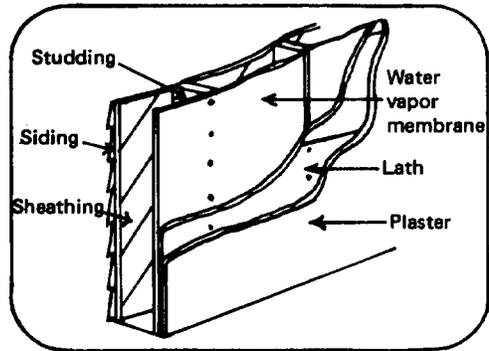

FIGURE 5-33
- g. Direct contact of wood walls with ground or shrubbery. (See Figure 5-33.)